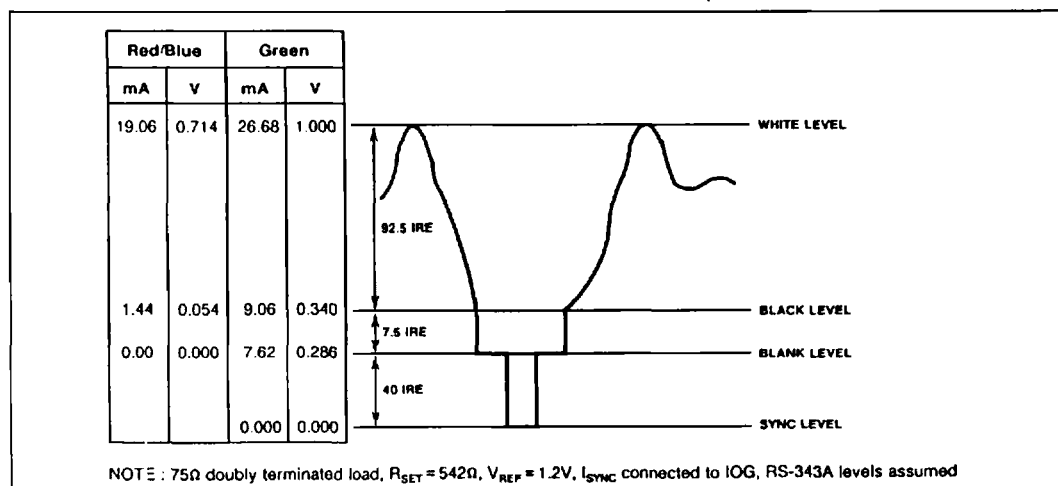

Fig.3 Composite video output waveform
SYNC and BLANK are latched on the rising edge of the clock to maintain synchronisation with the colour data. These inputs add appropriately weighted currents to the analog outputs, producing the specific output levels required for video applications as shown in Fig. 3. Table 1 details how the SYNC, BLANK, and REFWHITE inputs modify the output levels.
FS ADJUST	Full scale adjust control. A resistor (R SET ) connected between this pin and AGND controls the magnitude of the full video signal (Fig. 3). The current flowing in the R SET resistor is equal to 32 LSBs. note that the IRE relationships in Fig. 3 are maintained, regardless of the full scale output current. The relationship between R SET and full scale current on IOG (assuming I SYNC is connected to IOG) is: $\text{IOG (mA)} = 12082 \times \frac{V_{\text{REF}} \text{ (V)}}{R_{\text{SET}} \text{ (}\Omega\text{)}} \cong 387 \text{ LSBs}$ The full scale output current on IOR, IOB (mA) for a given R SET is defined as: $\text{IOR, IOB (mA)} = 8624 \times \frac{V_{\text{REF}} \text{ (V)}}{R_{\text{SET}} \text{ (}\Omega\text{)}} \cong 276 \text{ LSBs}$